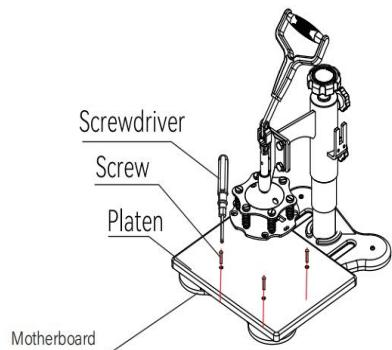

Fig 4
3. Place the board flat on the motherboard and align the board with the holes on the motherboard. Place the screw and lock it with a screwdriver (as shown in Figure 4)